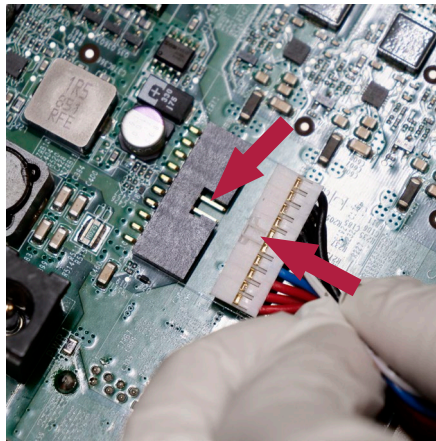

Figure 27 Reconnect the battery connector
a) Reconnect the battery to the battery connector (see Figure 12 and Figure 27)